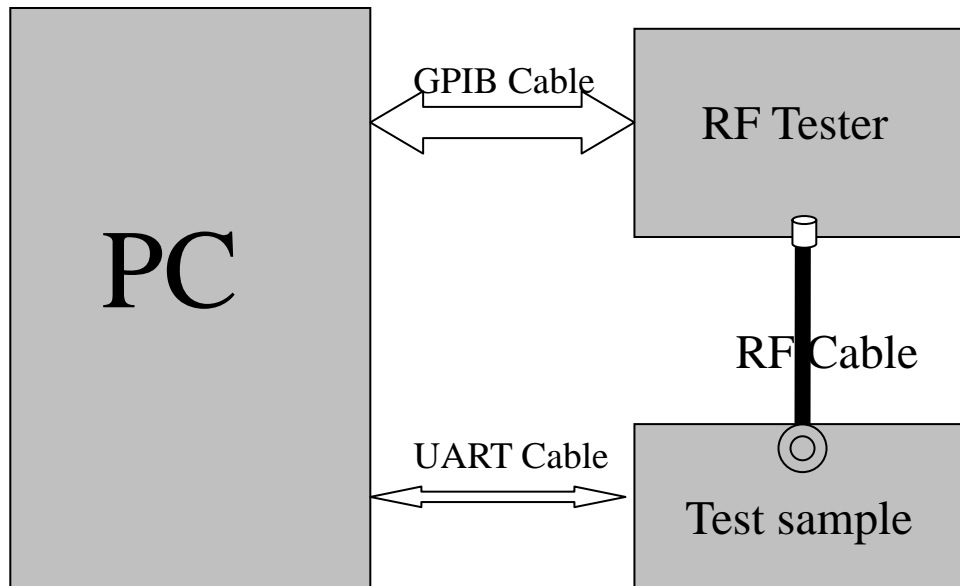

Figure 1
(1) The equipment setup as shown in Figure 1.
(2) Operation of PC adjusts equipment.
(3) Use RF Engineering Tools at PC side.
- (1) The equipment setup as shown in Figure 1.
- (2) Use Crystal AFC Control Tools to Set CapID and AFC DAC value.
- (3) Set Band=GSM850, Set ARFCN=190, Set PCL=12.